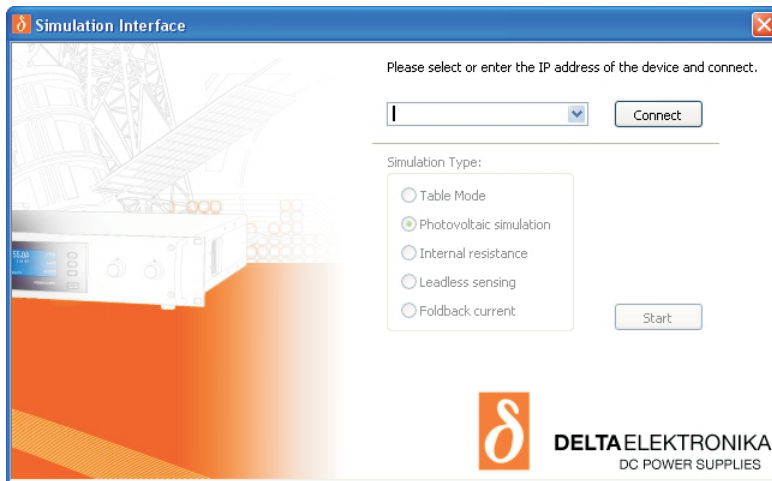

fig. 3 - 4
- When the application is started, it will show the welcome screen, it will query a list of power supplies with a simulation interface installed. Select the power supply form the drop down list and connect. Or enter a IP address and connect. Select the desired simulation type after this and click start, after which the corresponding application will start. Figure 3 - 4 shows the “welcome screen”.